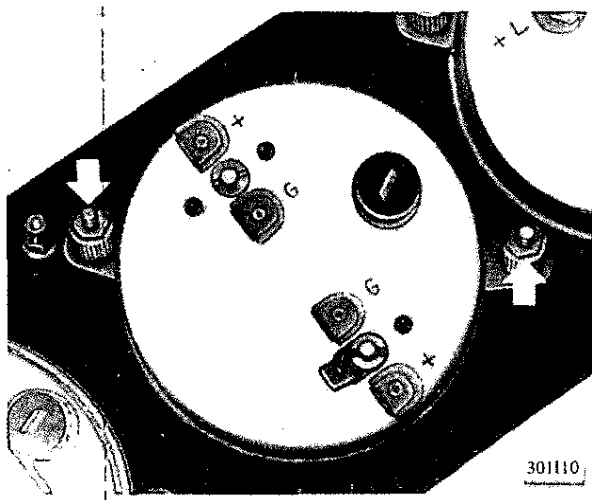

Figure 11-10 Rear View of Temperature Indicator and Fuel Gauge Dash Unit
3. Disconnect electrical wires. See figure 11-10.